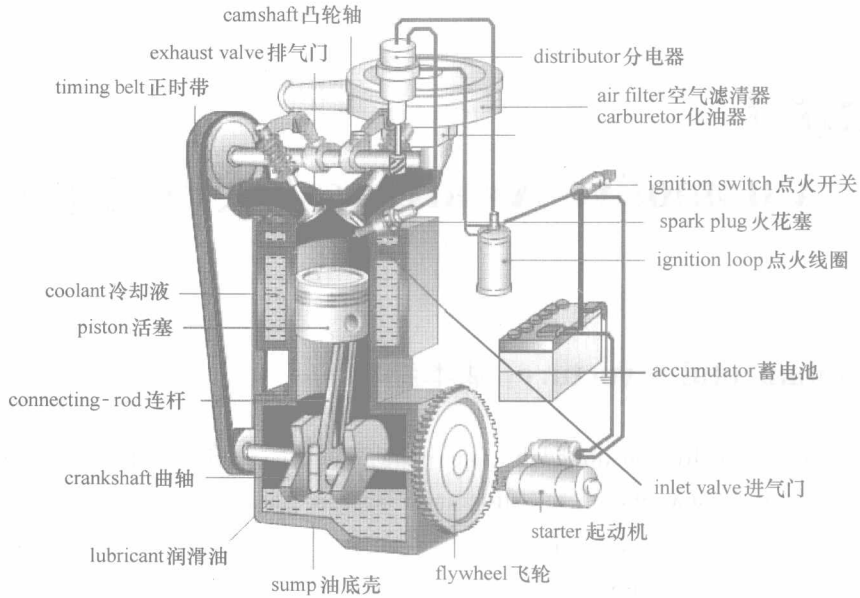
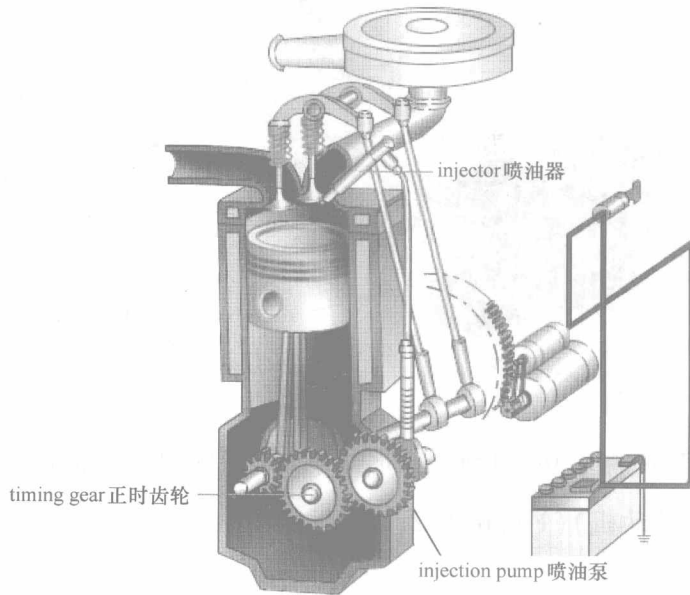

Figure 1.2 Gasoline Engine Appearance Structure(汽油机外形图)
Figure 1.3 Diesel Engine Appearance Structure(柴油机外形结构)
1.1.1 Engine(发动机)(Figure 1.2, Figure 1.3)